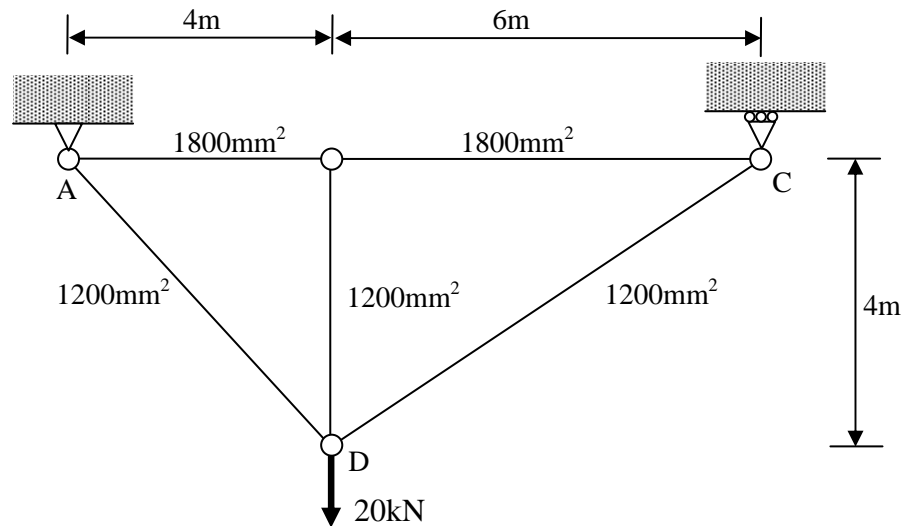

Figure 9
6. (a) For the truss shown in Figure 9, calculate the horizontal displacement of roller support C if members AB and BC suffer a temperature increase of 20°C , member AD is longer by 25mm and member CD is shorter by 25mm. Data for cross-sectional area A of all members is given in Figure 9. Assume Young's modulus $E=200\text{GPa}$ and coefficient of thermal expansion of member material $\alpha = 1.2 \times 10^{-5} / ^{\circ}\text{C}$.